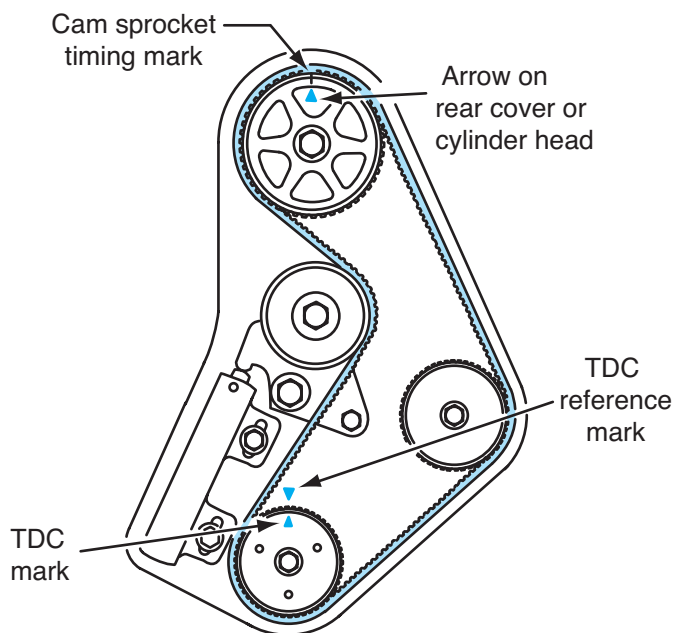

FIGURE 9.72 A mark on the cam sprocket aligns with a mark on the cylinder head when the crank sprocket is at TDC.
- Some OHC engines have a mark on the cam sprocket that lines up with a mark on the cylinder head when the timing mark on the crank sprocket is at the TDC mark (**Figure 9.72**).